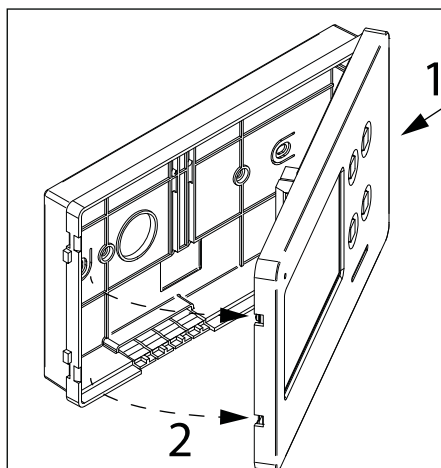

Fig. 1
1. In order to install the videophone, it is necessary to remove the cover, which contains all the electronics, from the base: press lightly on the right part of the videophone and simultaneously pulling outwards the left part as shown in **Fig. 1**.